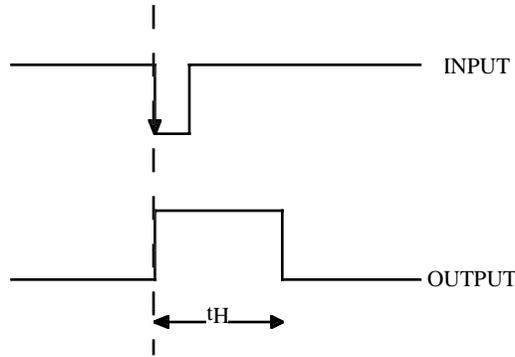

Figure 5. 555 one-shot waveforms
The TRIGGER pulse must be shorter than the desired t_H . A negative going (or falling) input pulse will cause the 555 output to go high as shown in Figure 5. As long as the input pulse is low (for at least 20 nanoseconds), the output is a positive going pulse which will remain high (near the supply voltage) for a time t_H specified by the manufacturer to be approximately given by
7. This should produce a 400 μ s negative going pulse similar to that shown in Figure 5 at the 555's TRIGGER* input.